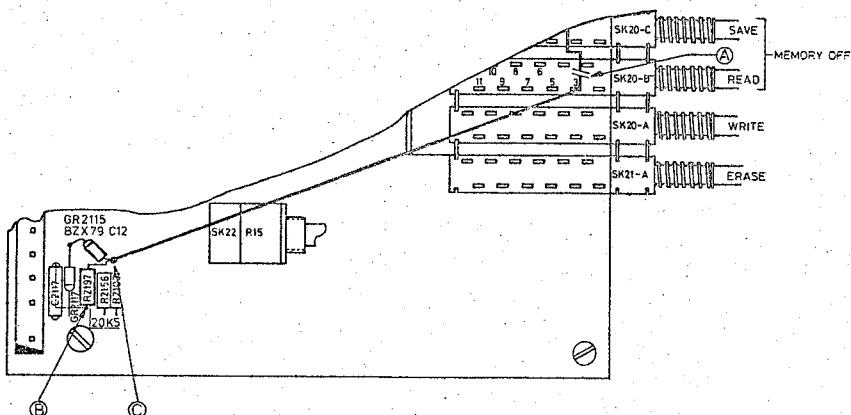

Fig. 1. Part of variable persistence and storage unit.
2. Interrupt the track (on the track-side of the p.w.b.) between point 3 of SK20B (READ) and the anode of GR2117 as indicated in fig. 1 A
4. Solder one side of a resistor of 20k5 (5322 116 55256) on the point, which is connected with C2117 as indicated in fig. 1 B (on the component side of the p.w.b.)
5. Solder between the resistor of 20k5 and the anode of the zenerdiode GR2117 a zenerdiode (GR2115) BZX 79 C12 (4822 130 34197). The cathode of GR2115 to the anode of GR2117 (see fig. 1)
6. Mount an interconnection wire between the anode of GR2115 (fig. 1 C) and point 3 of the switch SK20B (READ)